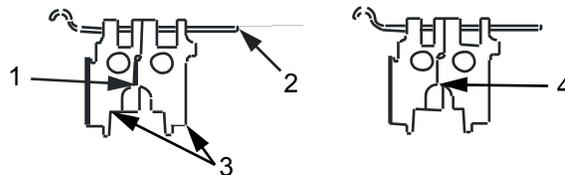

Figure 17. Hinge Pins - Bad versus Good Condition.
4. Check for bent hinge pin retaining pin (Figure 17, Item 2) by rotating the pin and observing any change in the parallel gap (Figure 17, Item 4) compared to the unparallel gap (Figure 17, Item 1) between the cartridge retaining pawls (Figure 17, Item 3). If hinge pin retaining pin is bent, replace (WP 0011). It is not necessary to disassemble the cartridge retaining pawls and hinge pin to perform this check.